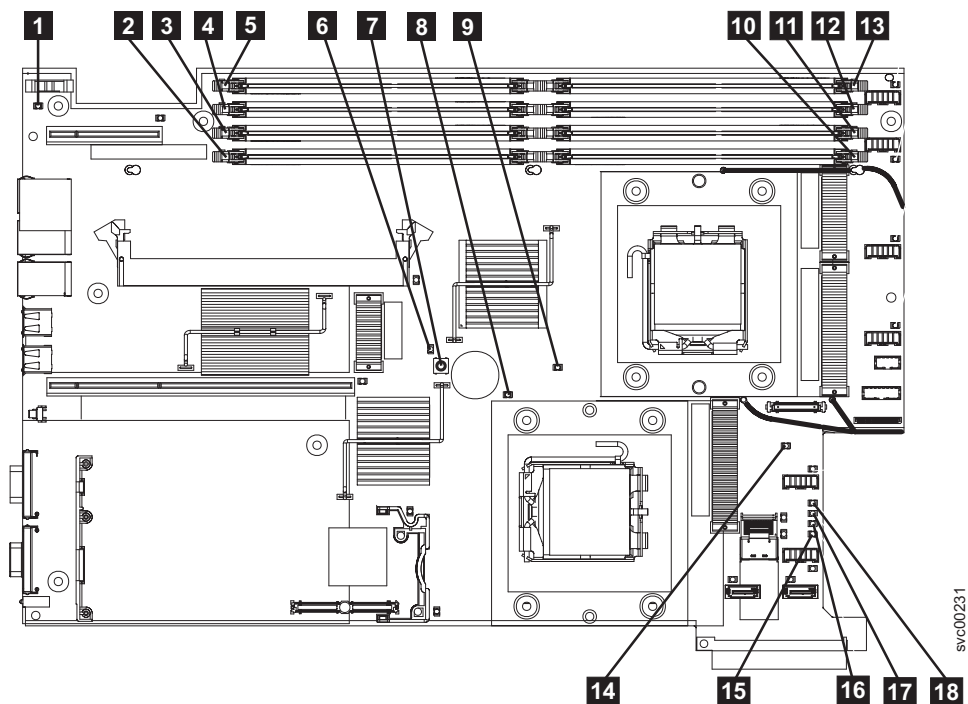

Figure 99. SAN Volume Controller 2145-8G4 system board LEDs
**YES** See Table 62 on page 297 and perform the action specified for the specific light path diagnostics LEDs. Then go to step 3 on page 298. Some actions will require that you observe the state of LEDs on the system board. Figure 99 on page 296 shows the location of the system board LEDs. The fan LEDs are located adjacent to each FAN. To view the LEDs you will need to do the following:
- d. Press the light path diagnostics button ( **7** in Figure 99).